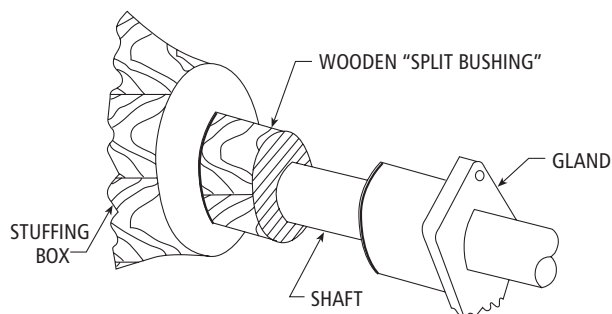

Figure 14
- Install the packing rings and lantern ring in the following sequence to pack the packed box. Install two rings of packing, then the lantern ring, followed by the final three rings of packing. Install each ring separately and firmly seat. The use of a wooden split bushing is recommended to accomplish this. See Figure 14. Use gland to jack the bushing and ring into the box. Stagger joints in each ring 90°. Make sure the flush tap in the packed box lines up with the center of the lantern ring. Any extra rings are spares.